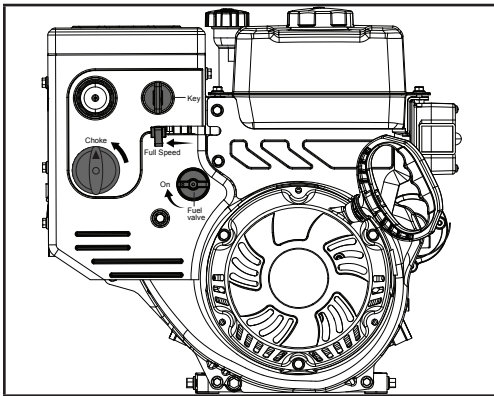

Figure 9A
1. Make sure the engine safety key is inserted into the key hole (Fig. 9A).
2. Move the fuel valve lever to the on position (Fig. 9A).
- a. To start a cold engine, move the choke lever to the choke position (Fig. 9A).
4. Move the throttle lever to full speed to start the engine (Fig. 9A).